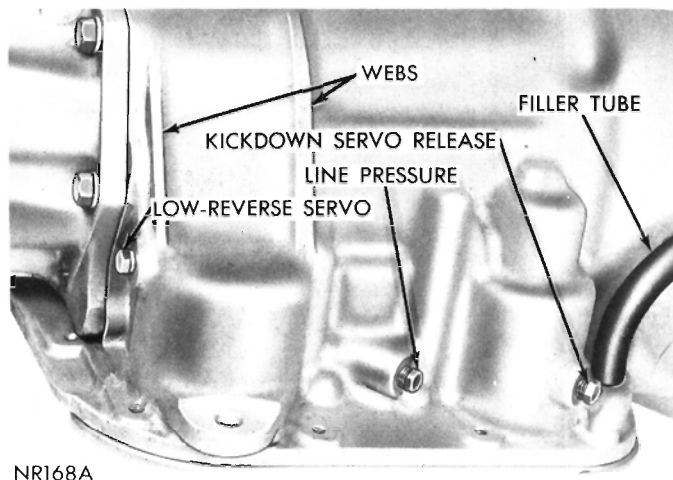

Fig. 20—Pressure Test Locations (Right Side of Case)
(1) Install an engine tachometer, raise vehicle on a hoist and position tachometer so it can be read under the vehicle.
(2) Connect two 0-100 psi pressure gauges, Tool C-3292 to pressure take-off-points at side of accumulator and at front servo release (Fig. 20).
(3) With control in D (drive) position, speed up engine slightly until transmission shifts into direct. (Front servo release will be pressurized in direct.) Reduce engine speed slowly to 1,000 rpm. Line pressure at this time (1,000 rpm) must be 54-60 psi, and front servo release pressure must not be more than 3 psi below the line pressure.
(4) Disconnect throttle linkage from transmission throttle lever and move throttle lever gradually to the full throttle position. Line pressure must rise to a maximum of 90-96 psi just before or at kickdown into low gear. Front servo release pressure must follow line pressure up to kickdown point and should not be